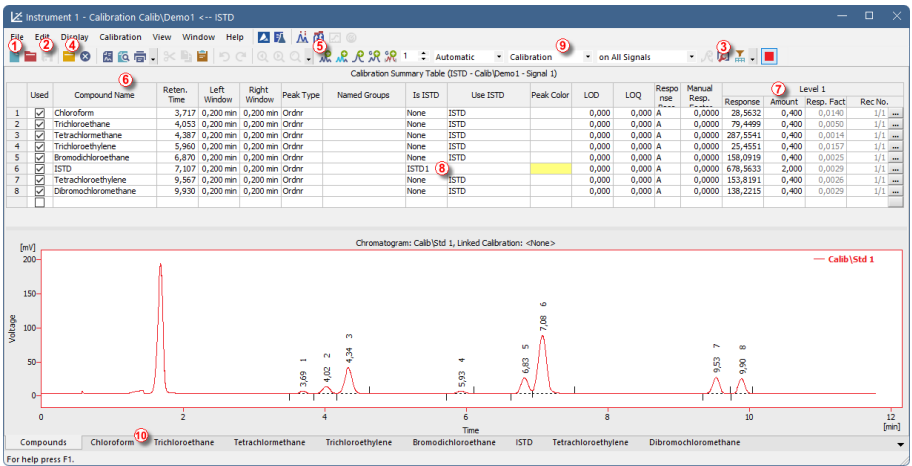

Fig. 13: The Calibration window - loaded standard
- Use the *Open Standard*  icon (yellow) ④ to open the STD 1.PRM data file. The lower part of the *Calibration* window now displays the chromatogram of the standard.
- Use the *Add All*  icon (blue) ⑤ to add all identified peaks to the Calibration Summary Table. The Table appears in the *Calibration* window, ready to be completed as shown on **Fig. 13** on pg. 19.
- As demonstrated in the Calibration Summary Table and the Chromatogram, individual peaks are now identified according to their retention times only. To label the peaks, click and edit the fields in the *Compound Name* column ⑥ to the names shown on **Fig. 13** on pg. 19.